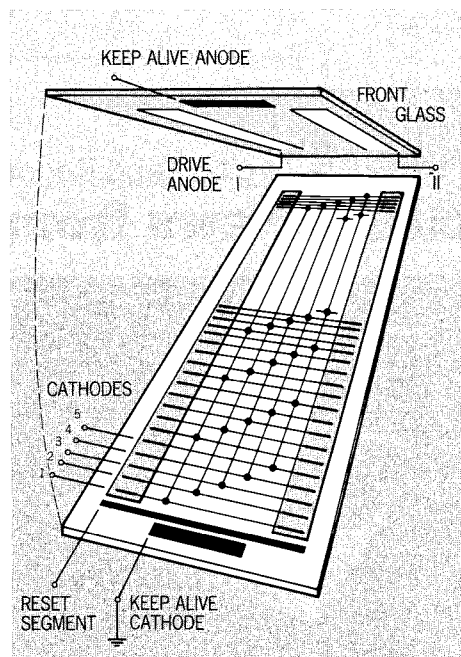

Fig. 2: Bargraph construction
**Plasma tube** (Fig. 2). After the 250 VDC supply voltage has been applied, a continuous glow discharge is triggered between the pre-ionization anode and cathode. Since the area around the pre-ionization segment is not physically isolated from the neighboring segments, the charge carriers diffuse into the area of the reset cathode. When the latter is energized first, a glow discharge occurs also here. The same effect causes the first segment to light up (ignite), if the reset cathode is switched off while cathode 1 is switched on. Although each 5th segment is electrically interconnected, only the lowest one glows because sufficient charge carriers are located in its vicinity.